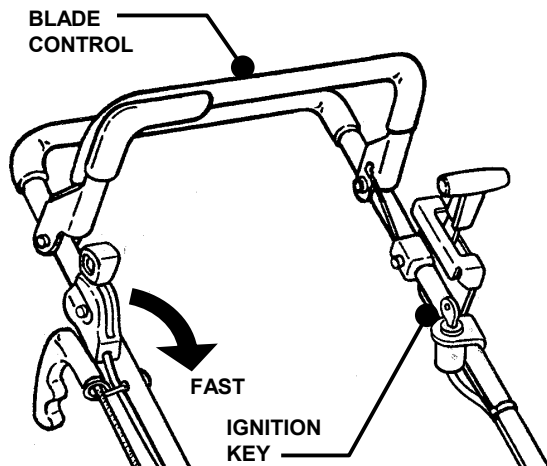

FIGURE 2.4
1. Move engine speed control to the "Fast" (Rabbit) position. See Figure 2.4.
4. Turn key to the start position until engine starts. See Figure 2.4.